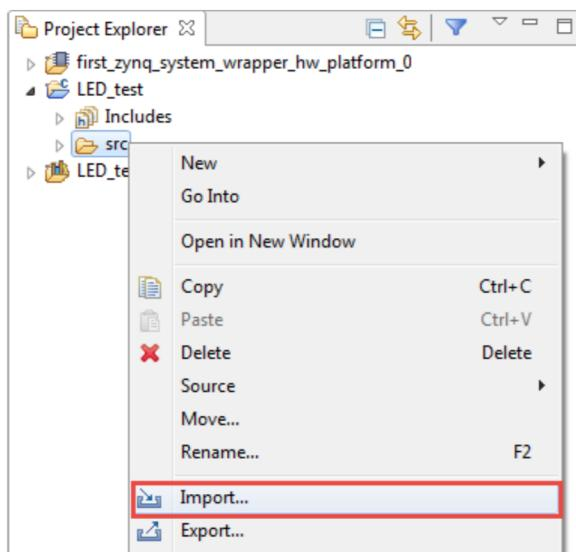

Figure 1.29: Import Source Files to Project
- (d) In the *Project Explorer* panel, expand **LED_test** and highlight the **src** directory. Right-click and select **Import...**, as shown in Figure 1.29.